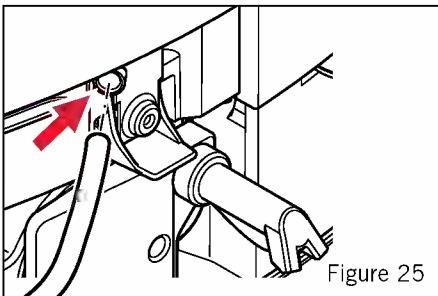

Figure 25
- Fit the milk tube again to the upper left of the milk frother. See Figure 25.